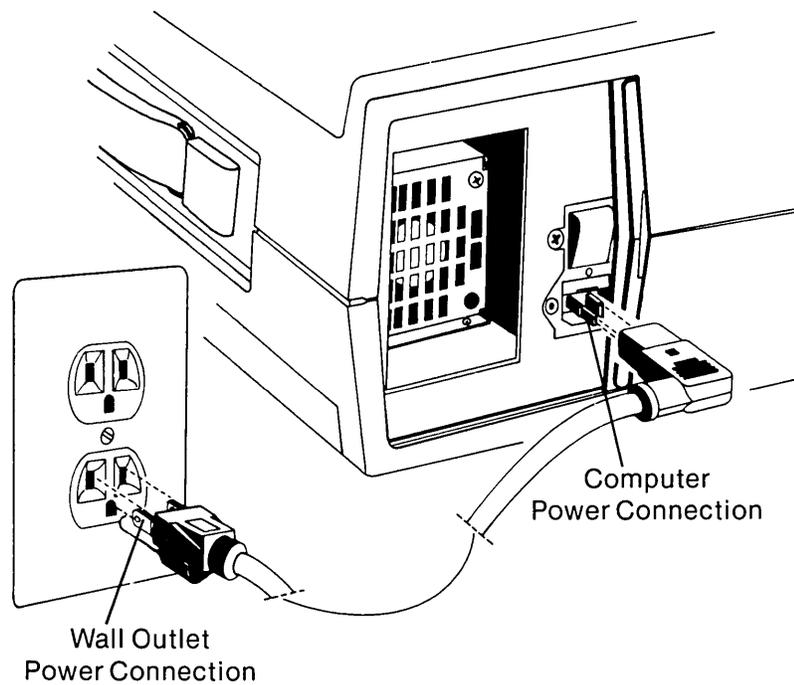

Figure 11-23. Disconnecting the Power Cord From the Computer.
Before you remove the case from the COMPAQ Computer, set the ON/OFF switch to the OFF position and disconnect the power cord from the computer (see Figure 11-23).
3. Unplug the computer from its power source (previously shown in Figure 11-23).